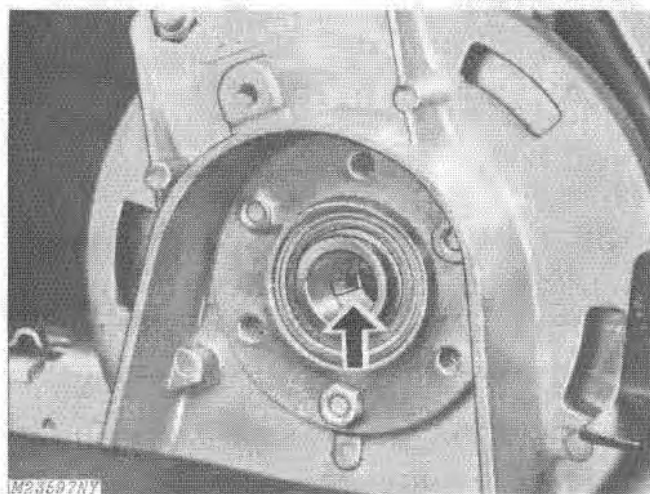

Fig. 10-Brake Disk Spring
1. Install flat spring in brake disk, Fig. 10.